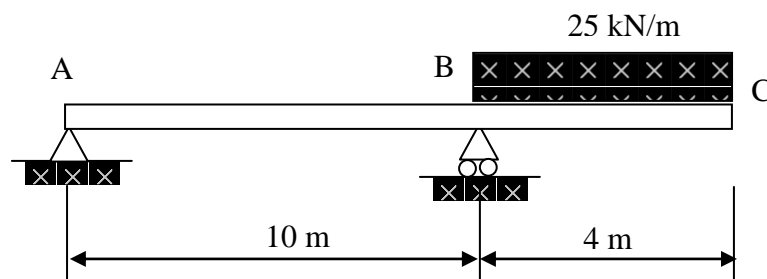

Figure 7
- (b) Figure 7 shows a beam with cantilever, carrying a uniformly distributed load of 25kN/m over the cantilever BC. Calculate the vertical deflection at the end of the cantilever.